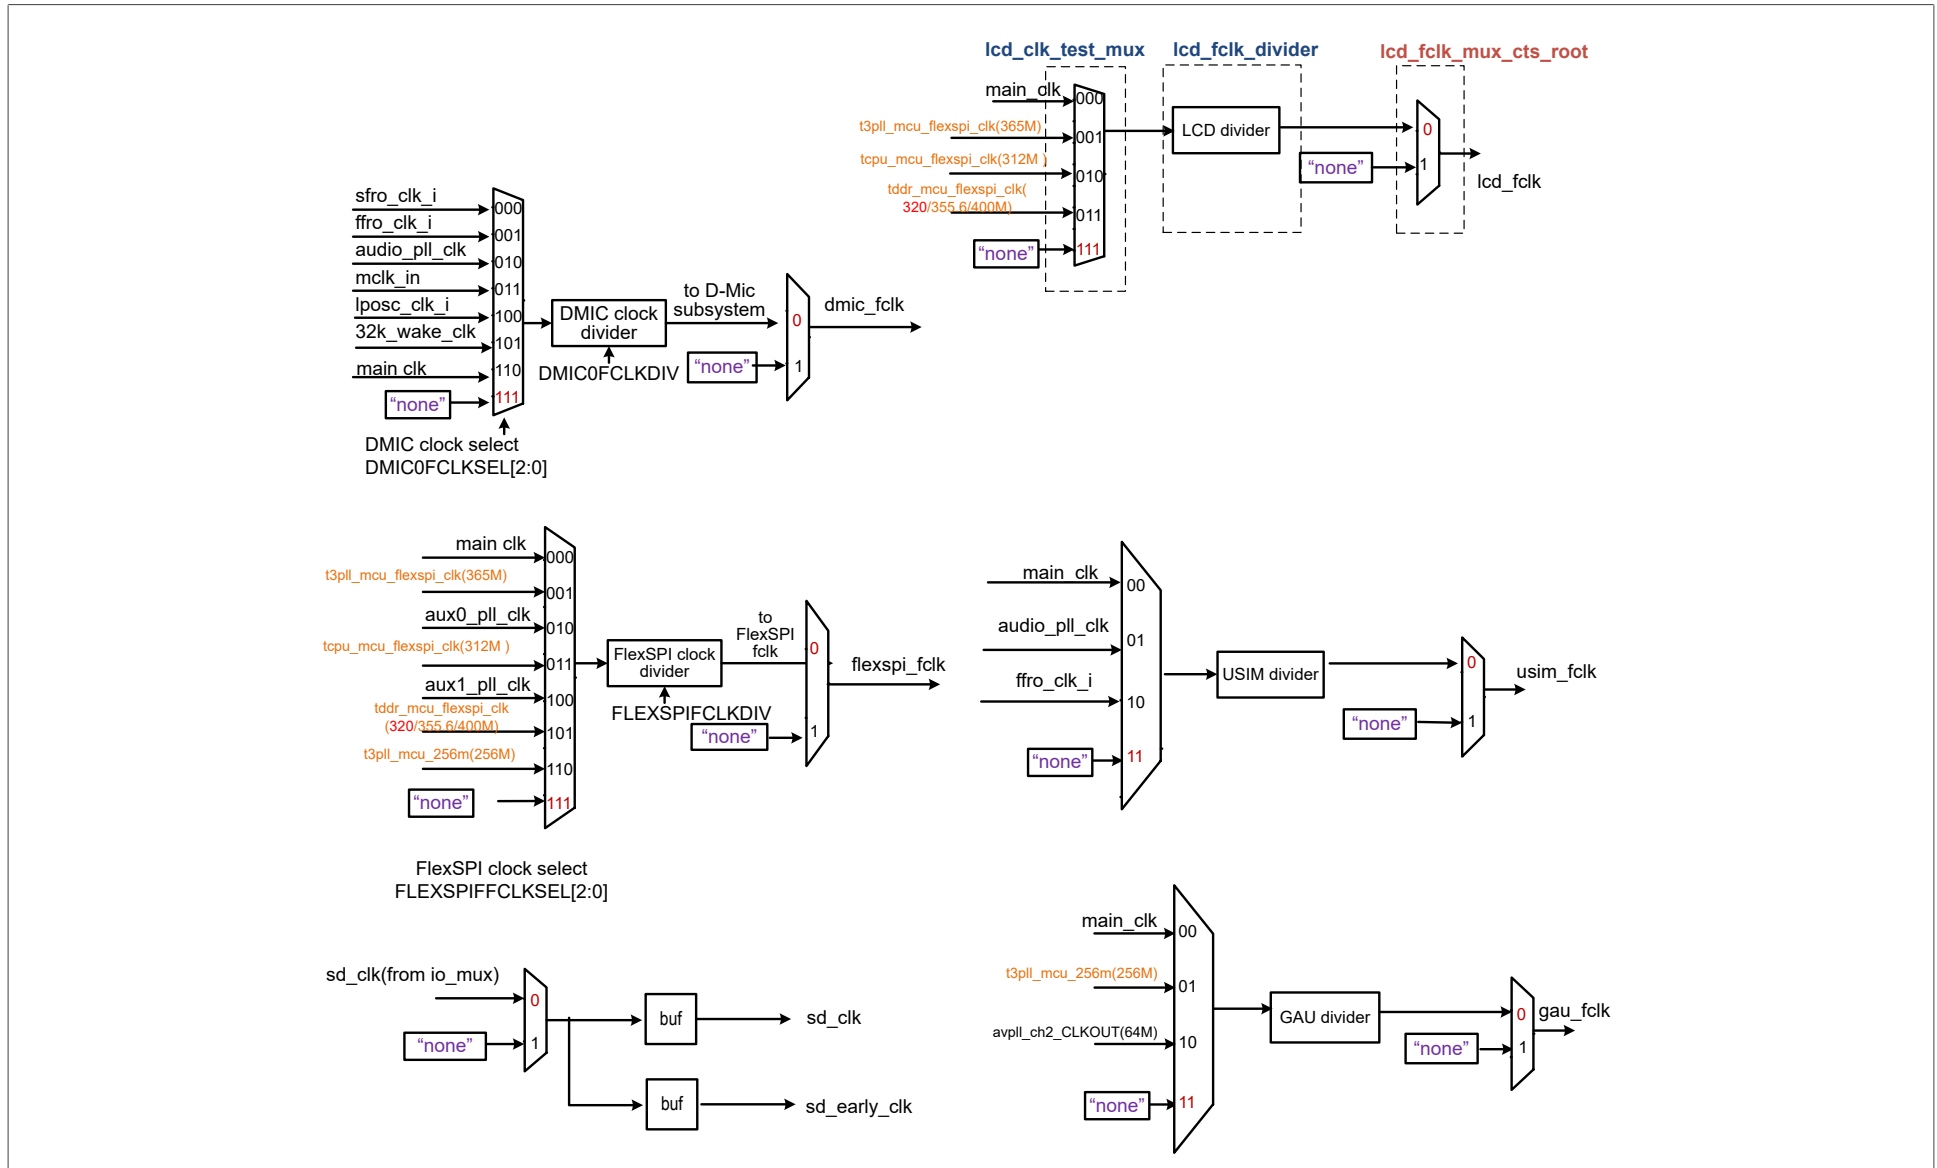

Figure 15. Clock generation - DMIC, FlexSPI, SDU, LCD, USIM, and GAU
- Figure 15 "Clock generation - DMIC, FlexSPI, SDU, LCD, USIM, and GAU"